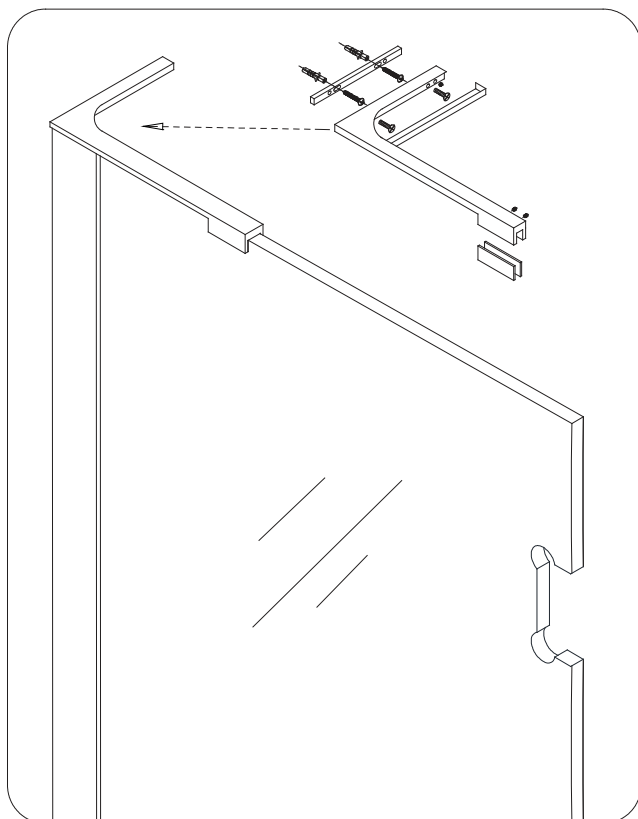

**Fig 10**
**See Fig 10, 11 & 12 for details**